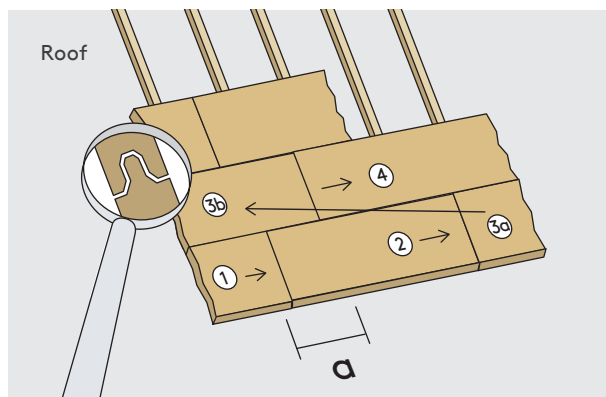

Figure 3
- Install first row of boards starting from bottom left with tongue pointing upwards (Fig. 3). The printed side of the board indicates the direction of installation with sanded side of the board facing inwards. Install further rows in a brickwork effect.